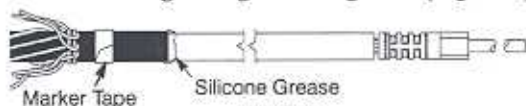

Figure 6
3. Fill in the step at the semiconductor insulation shield cut edge using silicone grease (Figure 6).